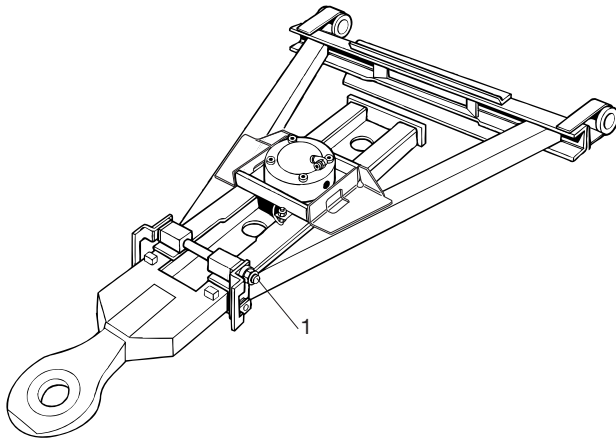

Figure 7
- Tighten the adjustment bolts (see figure 7, item 1) until there is no slack. Check that the front slider section can be adjusted lengthwise.